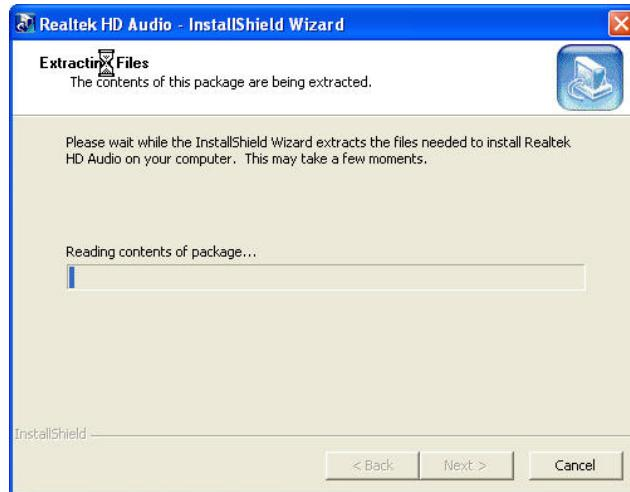

Figure 7-23: HD Audio Driver Setup Extracting Files
Step 4: Once the **WDM_R140** icon is double clicked, the contents of the installation package are extracted. See Figure 7-23.